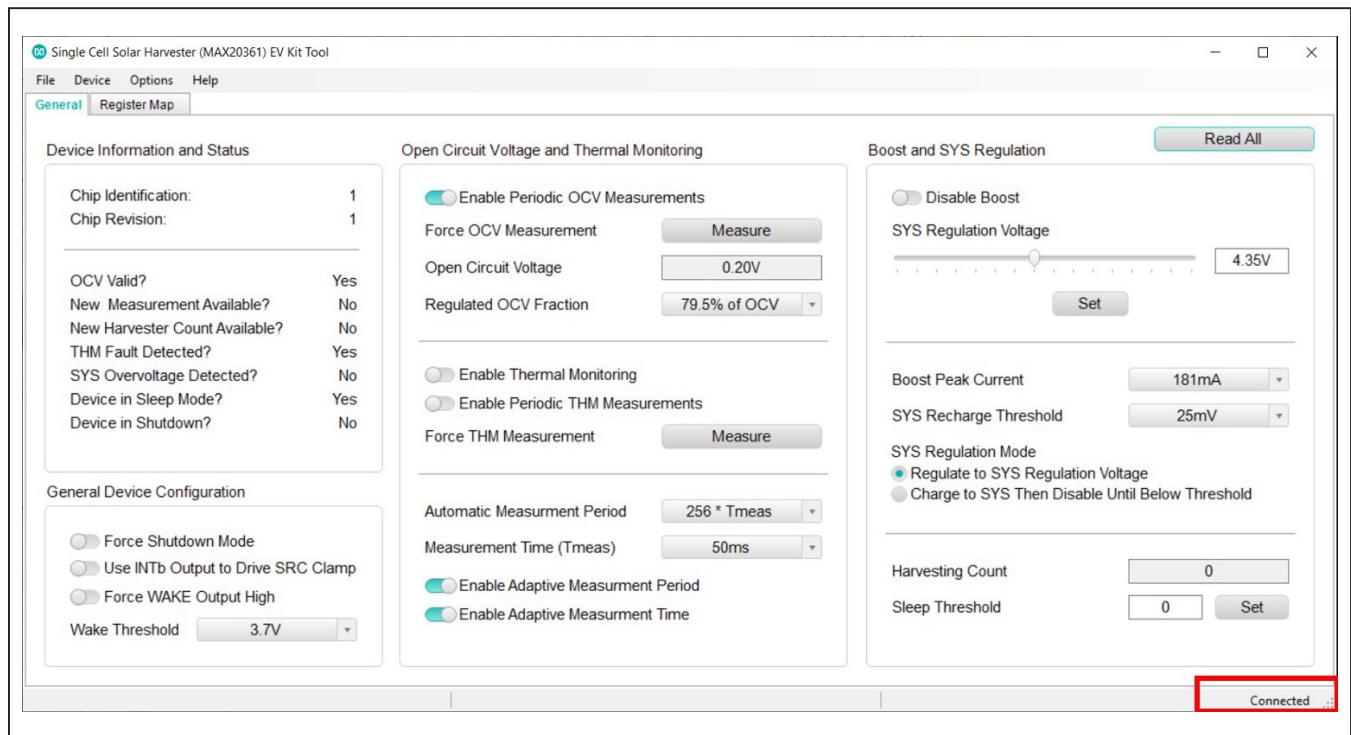

Figure 1. The Status of the GUI Shows Connected Ready for Further Evaluations
- 7) Start the MAX20361 EV kit tool. The EV kit software main window appears, as shown in Figure 1.